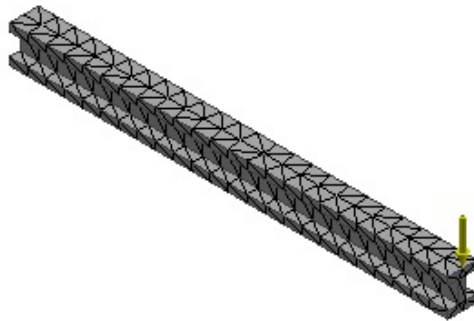

Figure 18-51 The meshed model with default mesh settings
1. Choose the **Mesh View** tool from the **Mesh** panel of the **Stress Analysis** tab; the **Meshing** progress box is displayed. Once the meshing process is done, the meshed model is displayed in the drawing area, as shown in Figure 18-51.